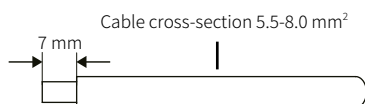

Fig. 47. Wire end stripping.
- Strip 7 mm of the insulation sleeve of the DC cable, as shown in Fig. 47: